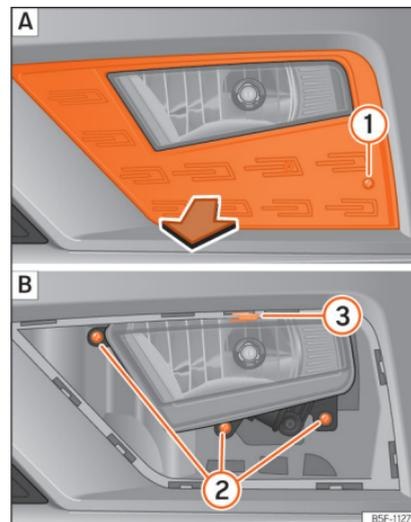
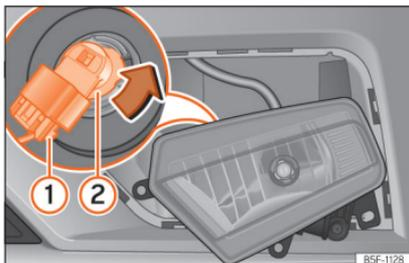

Fig. 113 Fog light: remove the grille
Fig. 114 Fog light: detach the bulb holder
1. Remove the screw » **Fig. 113 ① A** from the fog light grille using a screwdriver and extract the grille.
2. Remove the 3 screws » **Fig. 113 ② B**.
3. Remove the metal clip situated on the upper part of the fog light by pulling away from the vehicle **③ B** and extract the fog light.
4. Remove the connector » **Fig. 114 ①** from the bulb.
5. Turn the bulb holder **②** anti-clockwise and pull.